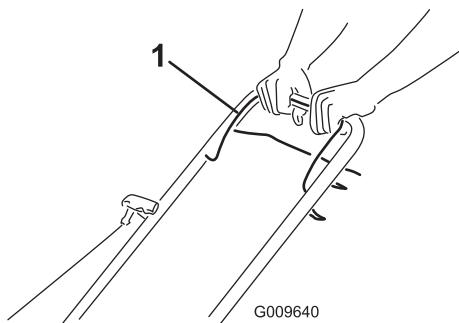

Figure 10
- Hold the blade control bar (Figure 10) against the handle.